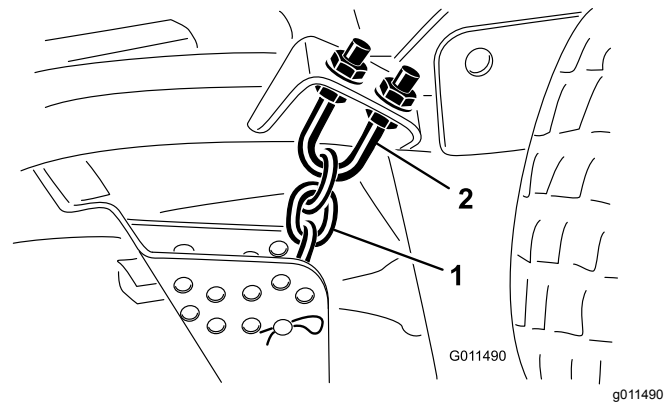

Figure 82
1. Loosen the jam nuts at the top or bottom of the height-of-cut chain U-bolt (Figure 82).